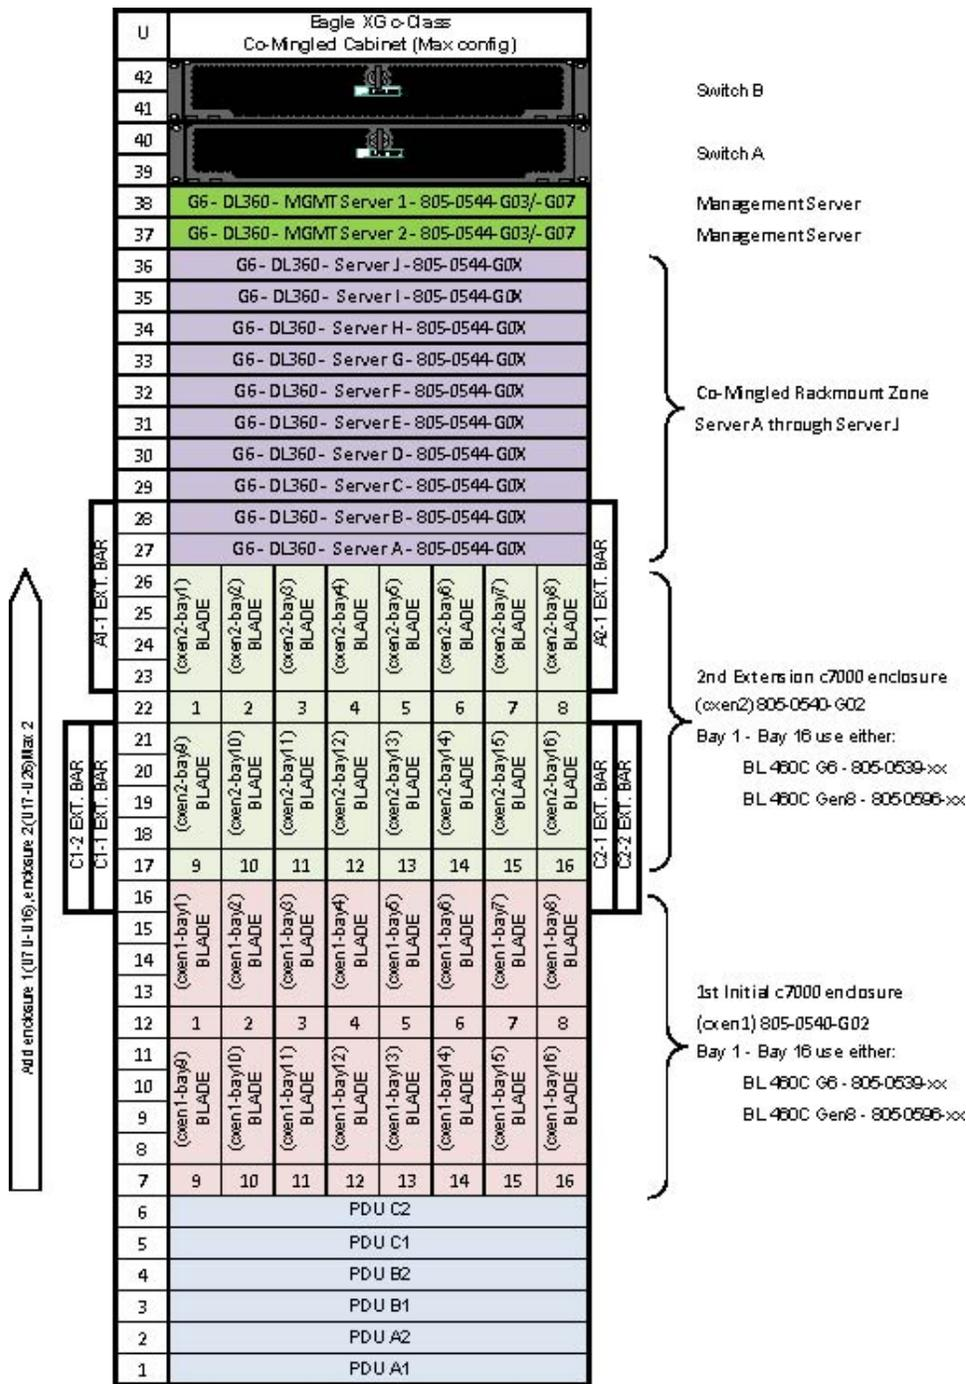

Figure 2: Example of an AC Co-Mingled cabinet with Cisco 4948E-F
- *Figure 2: Example of an AC Co-Mingled cabinet with Cisco 4948E-F*